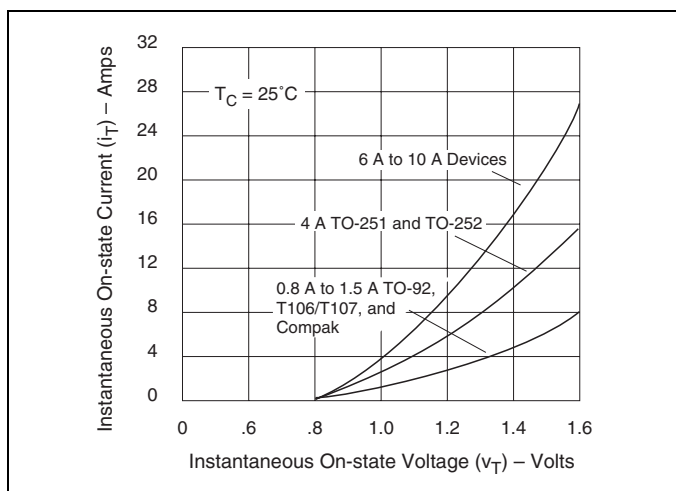

Figure E5.11 Instantaneous On-state Current versus On-state Voltage (Typical)
- (3) See Figure E5.11 for instantaneous on-state current ( $I_T$ ) versus on-state voltage ( $V_T$ ) TYP.